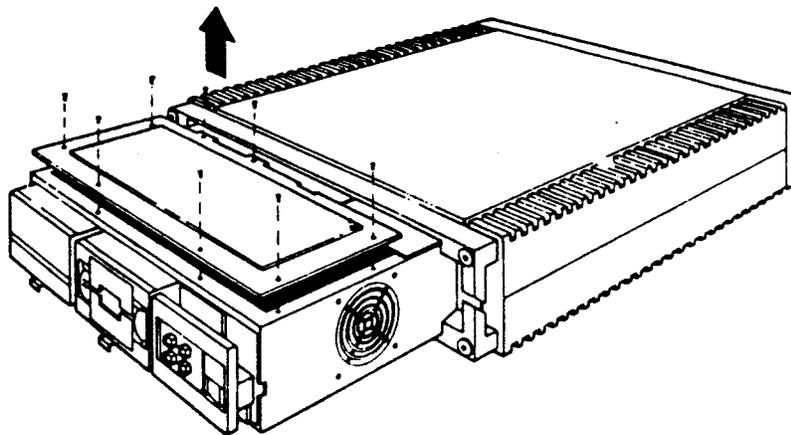

Figure 4-10: Storage Subsystem Cover Removal
7. Remove the storage subsystem cover (Figure 4-10).